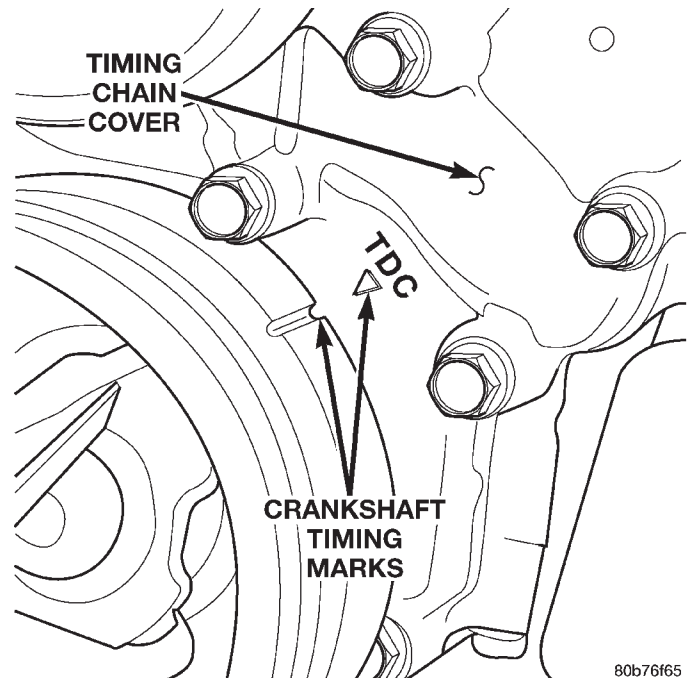

Fig. 42 Engine Top Dead Center (TDC) Indicator Mark
(1) Disconnect the negative cable from the battery.
(2) Raise the vehicle on a hoist.
(3) Disconnect the exhaust pipe at the left side exhaust manifold.
(4) Drain the engine coolant. Refer to Group 7, Cooling system for procedure.
(5) Lower the vehicle.
(6) Remove the intake manifold. Refer to procedure in this section.
(7) Remove the cylinder head cover. Refer to procedure in this section.
(8) Remove the fan shroud. Refer to Group 7, Cooling System for procedure.
(9) Remove the power steering pump.
(10) Rotate the crankshaft until the damper timing mark is aligned with TDC indicator mark (Fig. 42).
- (4) Drain the engine coolant. Refer to group 7 Cooling system for procedure.
- (5) Lower the vehicle.
- (6) Remove the intake manifold. Refer to procedure in this section.
- (7) Remove the cylinder head cover. Refer to Cylinder Head Cover in this section.
- (8) Remove the fan shroud. Refer to Group 7, Cooling System for procedure.
- (9) Rotate the crankshaft until the damper timing mark is aligned with TDC indicator mark (Fig. 42).